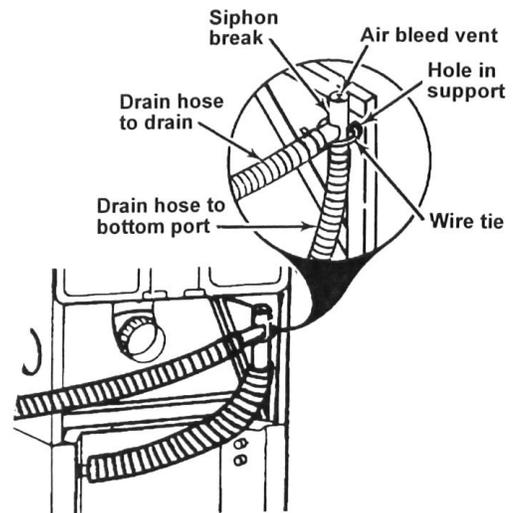

Figure 4
2. Install siphon break using wire tie. See Figure 4.
3. Measure and cut plastic drain hose to fit bottom port of siphon break. See Figure 4.
5. Install plastic drain hose with sleeve installed, using clamp supplied, to bottom port of siphon break. See Figure 4.
6. Install remaining length of plastic drain hose with sleeve installed (see Figures 4 and 5) to side port of siphon break, using clamp supplied. Cut to fit the particular drain installation.